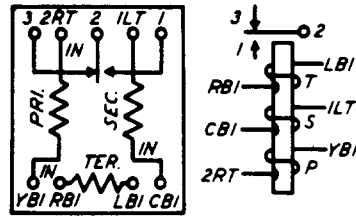

Fig. 4 - Winding and Spring Terminal Arrangement as Viewed From the Rear (terminal side) — L-, N-, and S-Type Relays
2.16 As viewed from the rear of the relay the winding and contact spring terminals are numbered consecutively from right to left as described in 2.07 through 2.11. (See Fig. 4.)